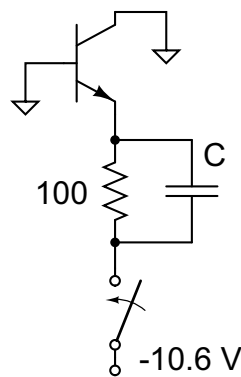

Figure 4.5: Switched-emitter common base amplifier
**Problem 3** This problem examines the switching performance of a common base amplifier. The transistor parameters are  $\beta_F = 100$ ,  $\beta_R = 5$ ,  $\tau_F = 0.5$  ns,  $\tau_R = 1$  ns, and  $\tau_S = 7.55$  ns. Ignore the effects of the space charge layers. The transistor is connected as shown in Figure 4.5.